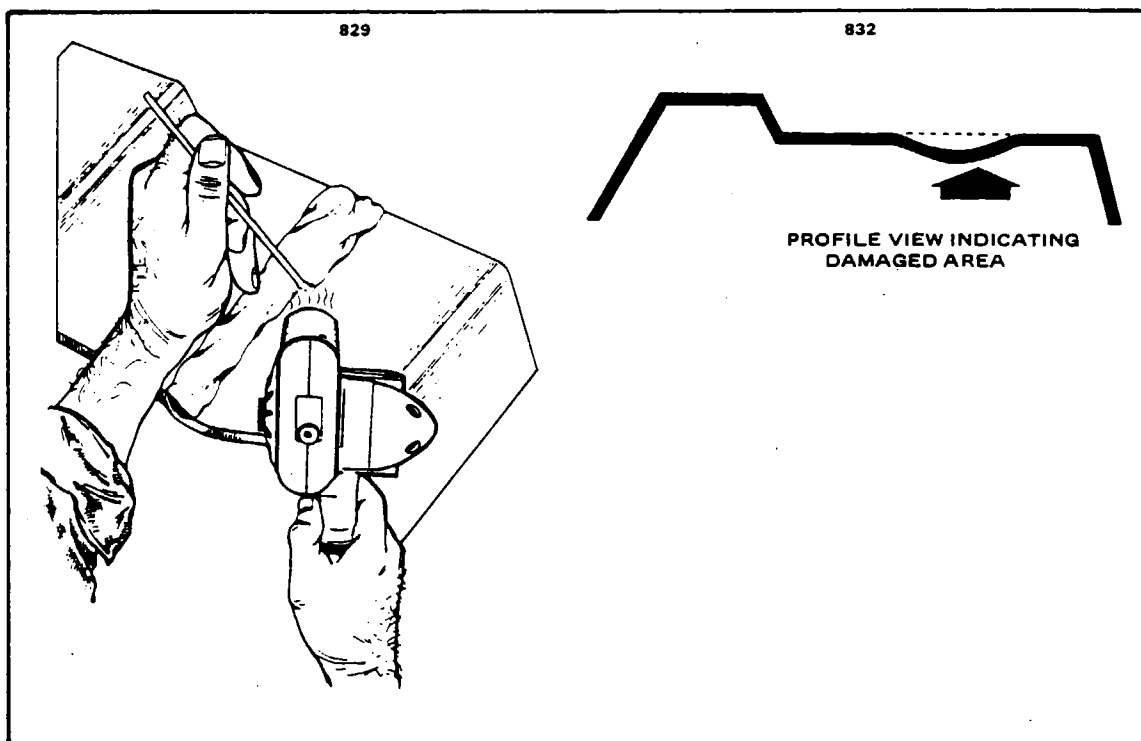

Figure 4-13. Repair of Impacted Damage.
- 1. Stress lines produce a whitened appearance in a localized area and generally emanate from the severe bending or impacting of the material. (Refer to Figure 4-13.)